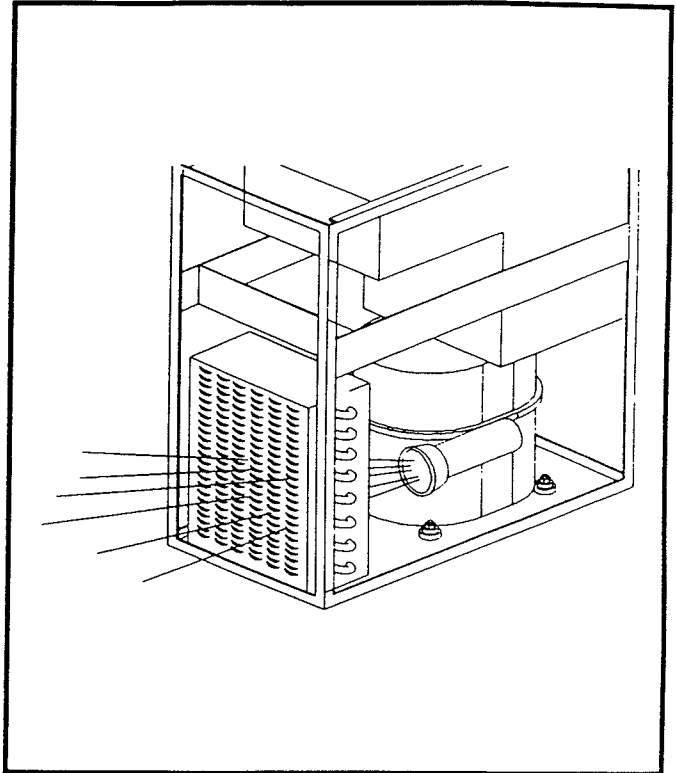

Figure 17
1. Visually inspect the condenser for dirt by shining a light through the coil from the inside of the condenser (Fig.17).